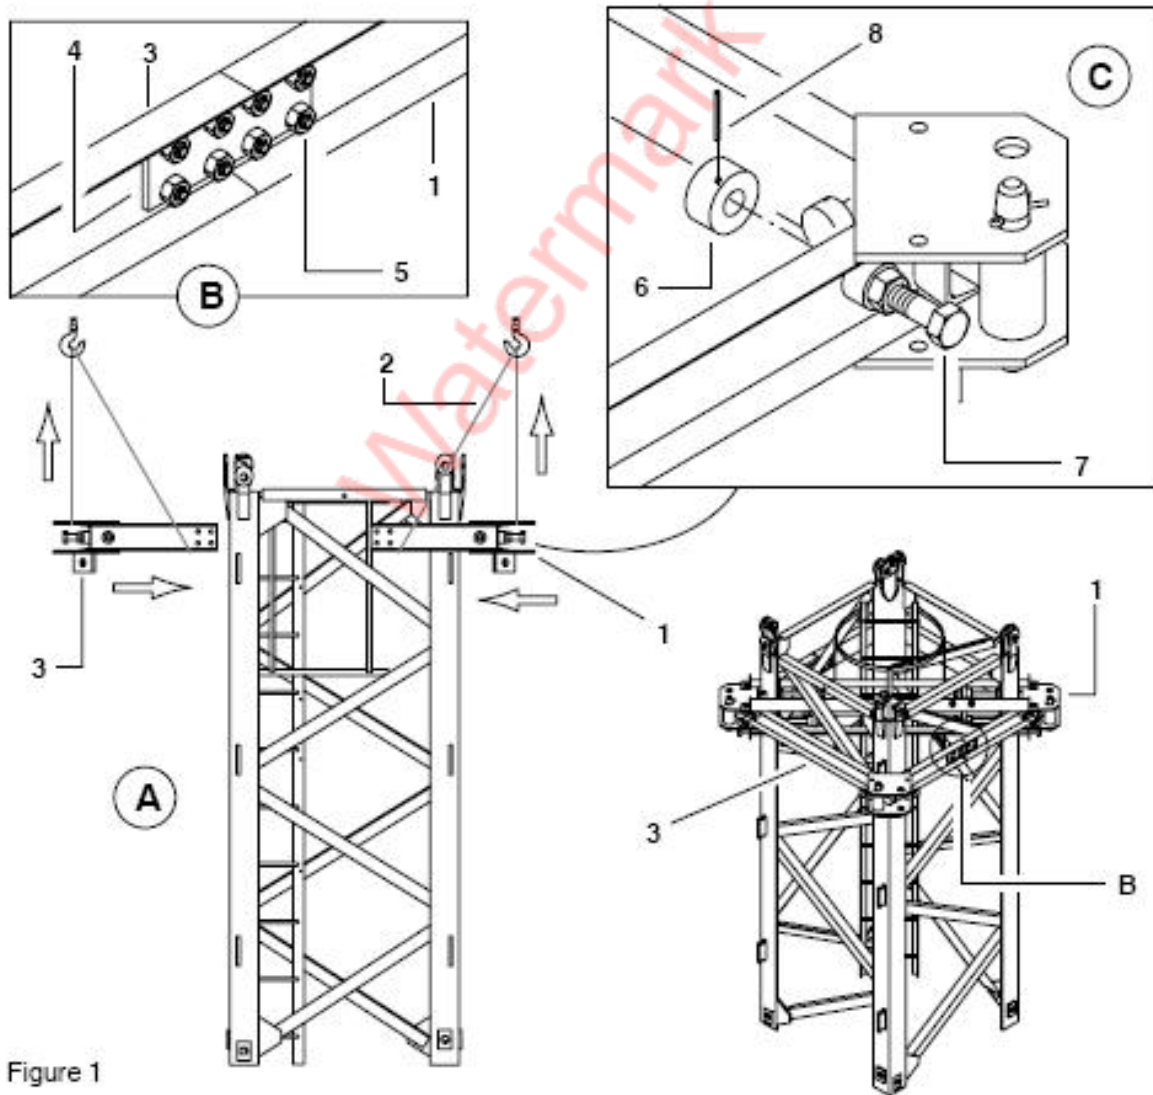

Figure 1
- Fix the half frame (1) by means of the slings (2) (Detail A - Figure 1).
- Sling the second half frame (3), lift it, position it at the level of the first one connect them together by means of the 2x8 fishplates (4) and lock it by means of the 2x8 fishplate bolts H20x53 (5) (Detail B - Figure 1).
- As soon as the half frames are connected together, lock them onto the mast section by means of the blocking round bars (6) by operating the screws (7). The blocking round bars are locked on the screws (7) by means of the split pins (8) (Detail C - Figure 1). Maintain the half frame in the position by means of the slings.